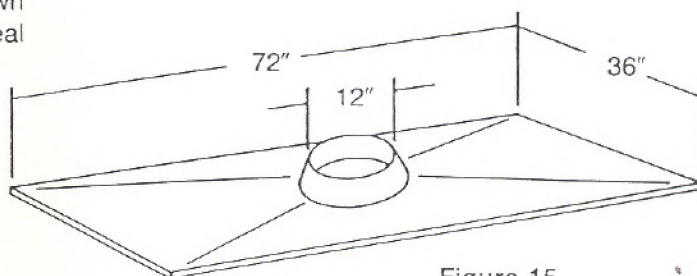

Figure 15
3. Attach chase top to chase. A factory built top, Catalog Number CT36, is available. See Figure 15.